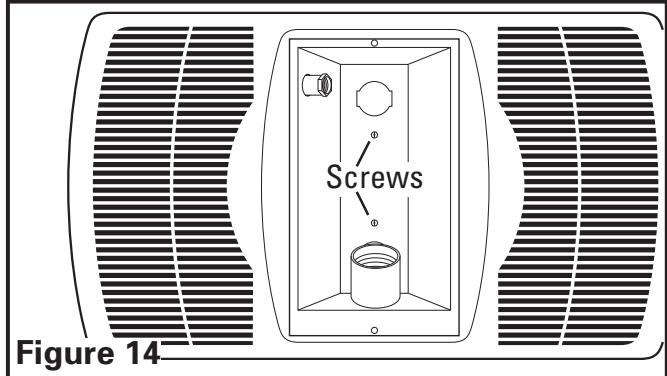

Figure 14
4. Attach light reflector in place with the two screws removed during Step 2 in **SECTION 1** *Preparing the Unit* so grill fits snugly against ceiling (Figure 14).